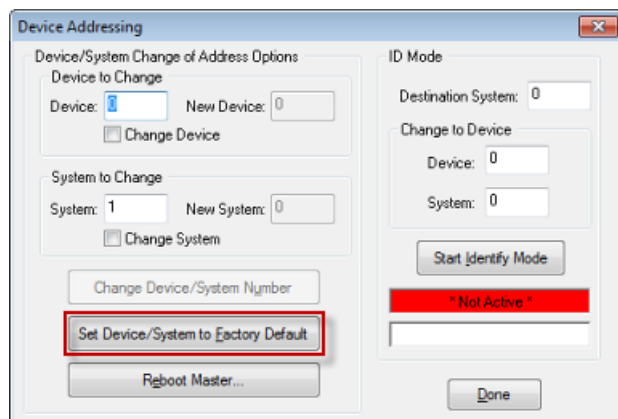

FIG. 32 Device Addressing dialog
2. Click the **Set Device/System to Factory Default** button (FIG. 32):